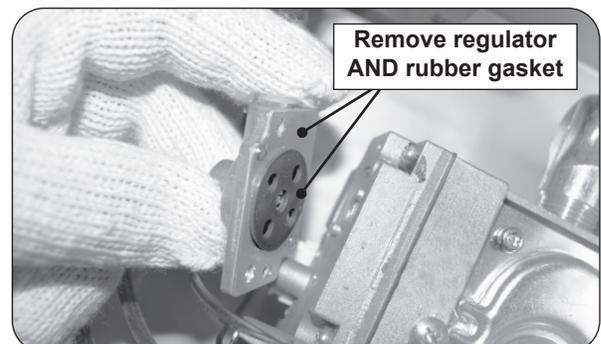

Fig. 4-5 Remove old regulator adapter
8. Carefully pull the regulator adapter away. **Discard** the old regulator, screws, and rubber gasket (see Fig. 4-5).